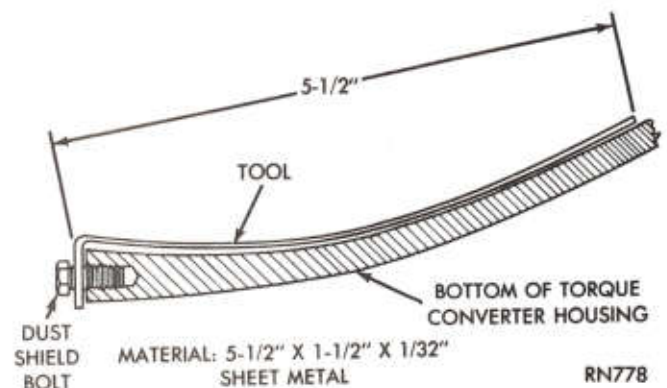
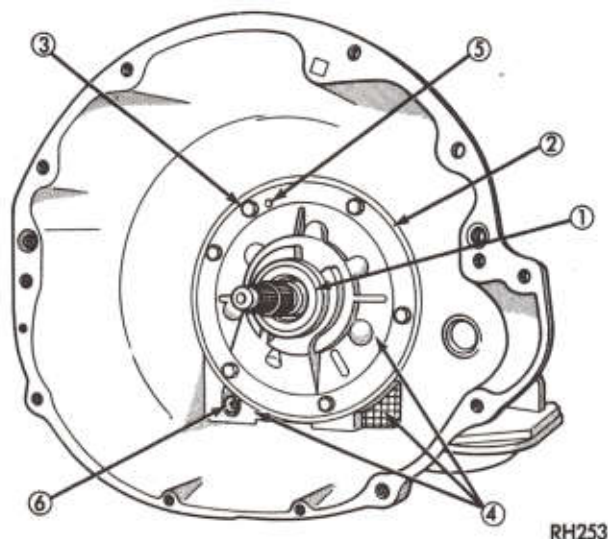

Fig. 4—Leak Locating Test Probe Tool
Fig. 5—Pump Housing Area
- (1) Remove torque converter housing dust shield.
- (2) Position vehicle with front lower than back so that accumulated fluid in torque converter housing will drain out. Wipe inside of torque converter housing as dry as possible. A solvent spray followed by compressed-air drying is recommended.
- (3) Fabricate and fasten test probe (Fig. 4) securely to convenient dust shield bolt hole. Make certain torque converter is cleared by test probe. Tool must be clean and dry.
- (4) Run engine at approximately 2,500 rpm with transmission in neutral, for about 2 minutes. Transmission must be at operating temperature.
- (5) Stop engine and carefully remove tool.
- (6) If upper surface of test probe is dry, there is no torque converter leak. A path of fluid across probe indicates a torque converter leak. Oil leaking under the probe is coming from the transmission pump housing area (Fig. 5).
- (7) Remove the transmission and torque converter assembly from vehicle for further investigation. The fluid should be drained from the transmission. Reinstall oil pan (with new gasket) at specified torque.
Possible sources of transmission pump housing area fluid leakage shown in (Fig. 5) are: